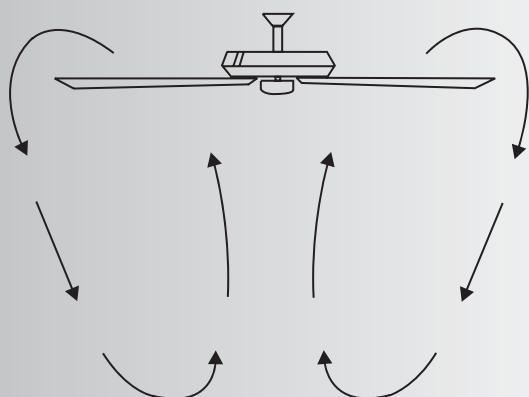

Fig. 26
**Cool weather - (Reverse)** An upward airflow moves warm air off the ceiling area as shown in Fig. 26. This allows you to set your heating unit on a cooler setting without affecting your comfort.